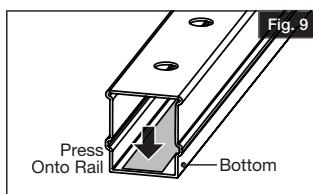

Fig. 9
- Press the foam strips onto rails (Fig. 9). For top rails 8' and longer in length, the strip will adhere to the aluminum stiffener instead of the top rail itself.